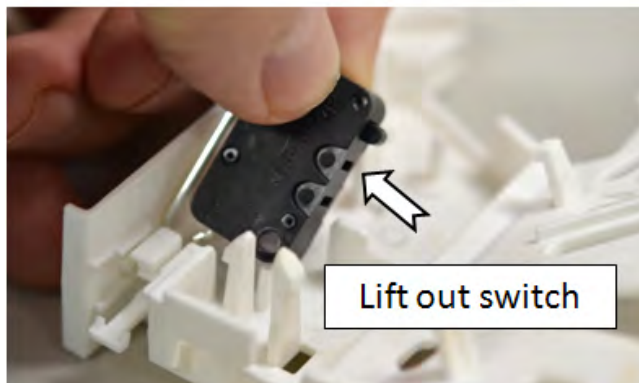

Figure 6
4. Open door and lift out switch to replace, see figure 6.